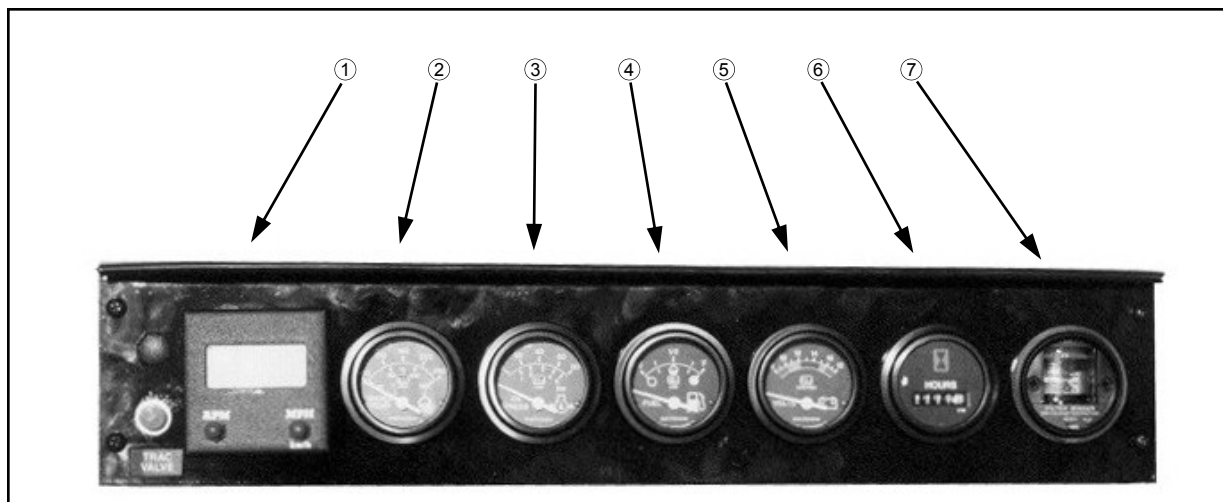

FIG 5.44
Speedometer/Tachometer - (fig. 5.44, item 1)
Water Temperature - (fig. 5.44, item 2) The water temperature gauge monitors the engine cooling system. A "RED" indicator light alerts the operator of unsafe operating temperatures.
Engine Oil Pressure - (fig. 5.44, item 3) The oil pressure gauge monitors pressure of the engine lubricating system. A "RED" indicator light alerts the operator of low level operation.
Fuel Gauge - (fig. 5.44, item 4) The fuel gauge measures the amount of fuel in either fuel tank, depending on the tank selected with the fuel switch. A "YELLOW" indicator light alerts operator of low level operation.
Volt Meter - (fig. 5.44, item 5) The volt meter measures voltage from the alternator on the diesel engine. A "RED" indicator light will alert the operator if the system is operating either too low or too high.
Hour Meter - (fig. 5.44, item 6) The hour meter progressively records elapsed time of detasseler operation. It is useful for determining service intervals.
Filter Minder (diesel only) - (fig. 5.44, item 7) See page 88 for information regarding the air filter monitoring system.